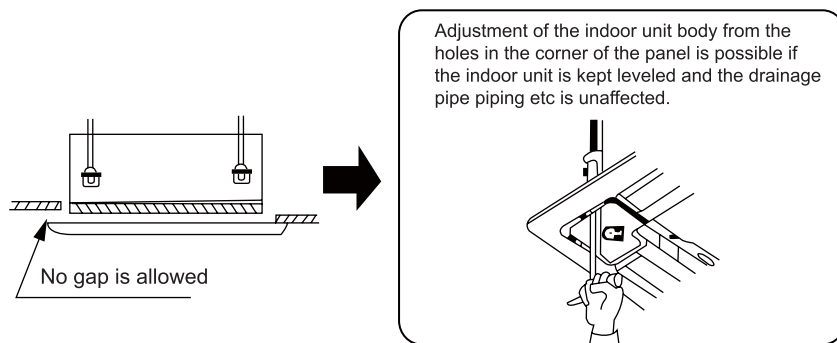

Figure 1-3-15
- If gap is still left between the ceiling and the panel after screwing the screws, readjust the height of the indoor unit body (Refer to Figure 1-3-15).